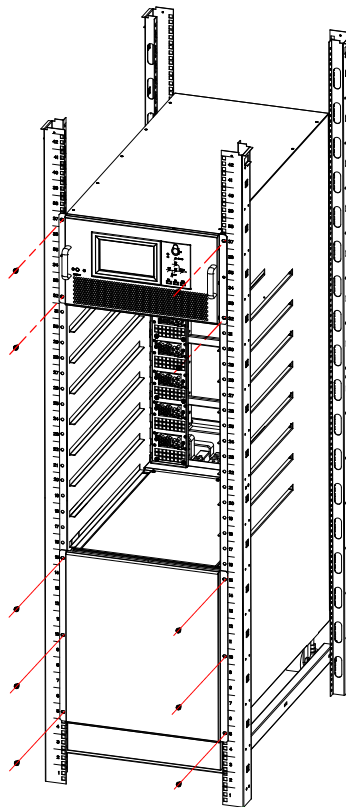

Figure 3-10 Load the UPS into the server cabinet
5. Load the UPS into the server cabinet, place on rack tray, and lock the bypass module and the manual bypass switch panel screws(6-slot cabinet needs to remove stationary barrier first), as Figure 3-10 shows ;